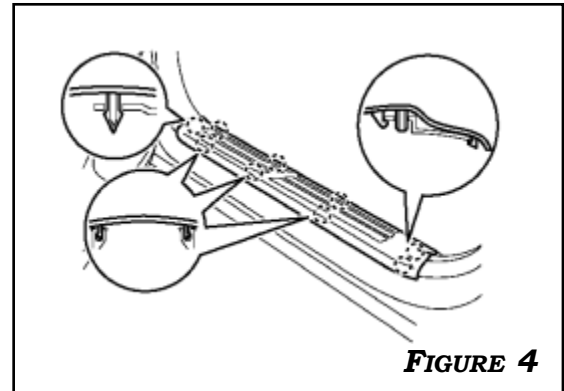

FIGURE 4
4. DISENGAGE CLIPS, AND REMOVE THE FRONT DOOR SCUFF PLATE AND KICK PANEL. **FIGURE 4**